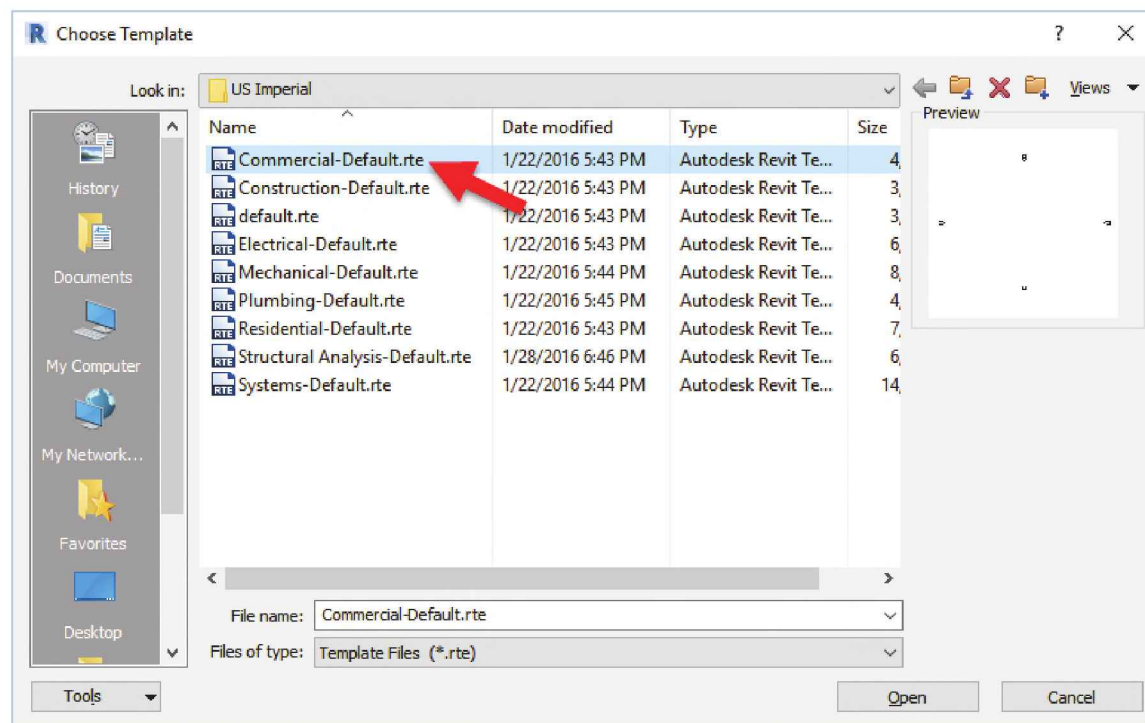

FIGURE 5-1.5 Choose Template dialog
3. It is VERY important you select the correct template: Select the template named **Commercial-Default.rte** from the list of available templates (Figure 5-1.5).